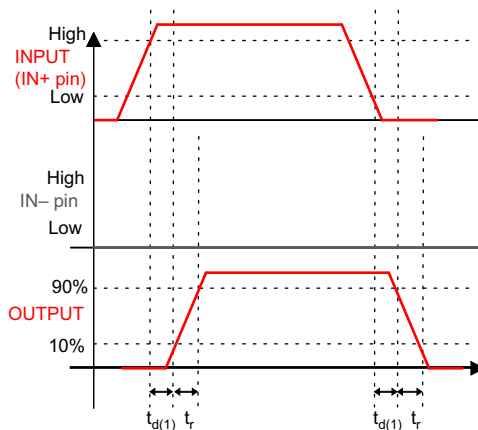
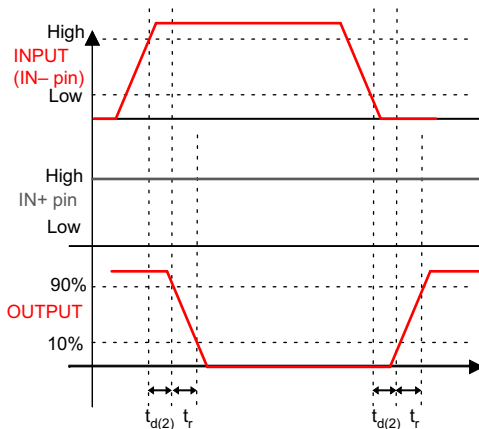
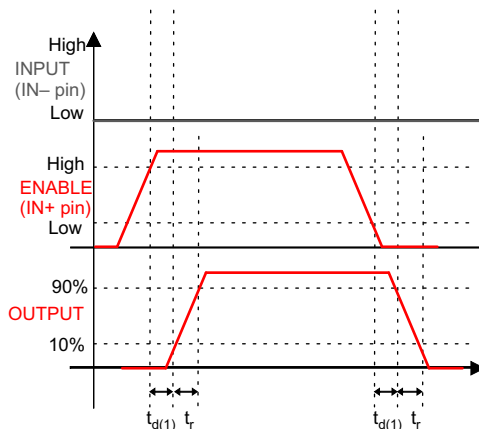
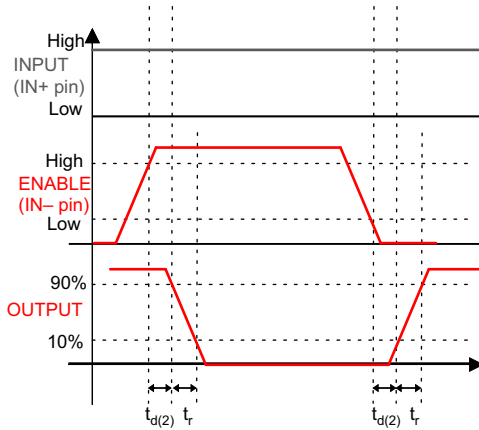

Figure 1. Non-Inverting Configuration (PWM Input to IN+ pin (IN- Pin Tied to GND), Output Represents OUTH and OUTL Pins Tied Together in the UCC27511A)
Figure 2. Inverting Configuration
Figure 3. Enable And Disable Function Using IN+ Pin
Figure 4. Enable and Disable Function Using IN- Pin
$V_{DD} = 12\text{ V}$, $T_A = -40^\circ\text{C}$ to 140°C , $1\text{-}\mu\text{F}$ capacitor from V_{DD} to GND. Currents are positive into, negative out of the specified terminal. See Figure 1, Figure 2, Figure 3, and Figure 4
(1) See timing diagrams in Figure 1, Figure 2, Figure 3, and Figure 4.